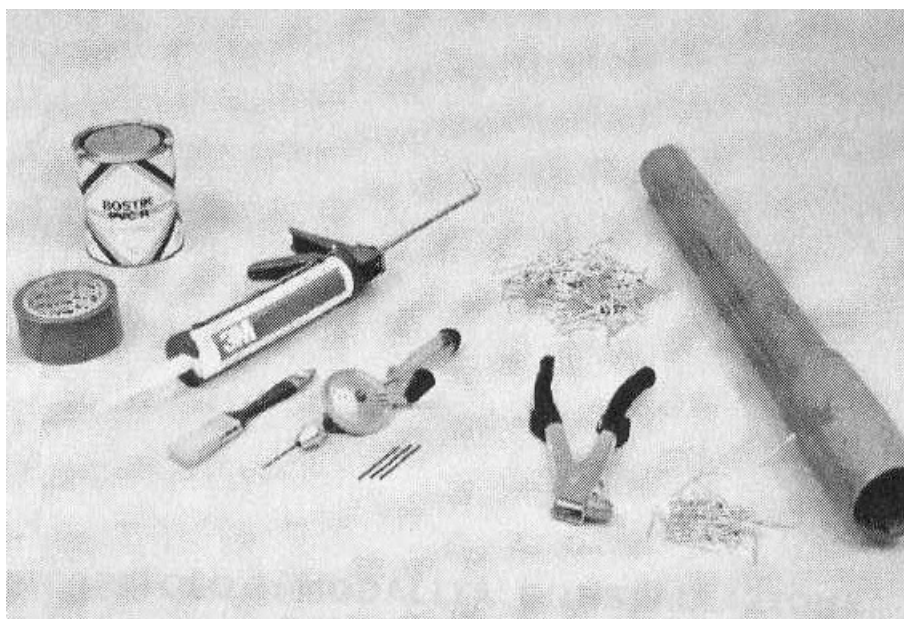

Figure 3, Mounting kit
- **Casing assembly kit:** it includes the requested material to assemble 100 meters of casing (see Figure 3):